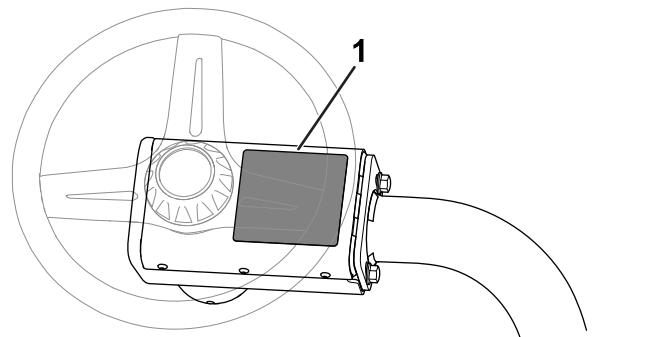

Figure 15
- Apply the CE warning decal (Part No. 136-8505) over the existing warning decal (Part No. 136-8506). Figure 15 shows the warning decal location.